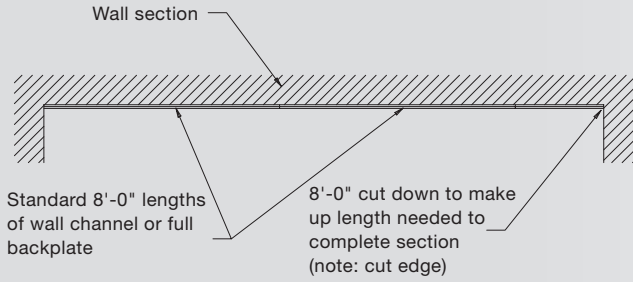

Figure VH-1
- 1b. Cut the snap mounting channel or snap full height backplate to the desired length. The channel and backplate are furnished in lengths of 4'-0" or 8'-0". Combine multiple lengths if needed. When joining two pieces, make sure that the cut end is at the end of the run. (Figure VH-1)